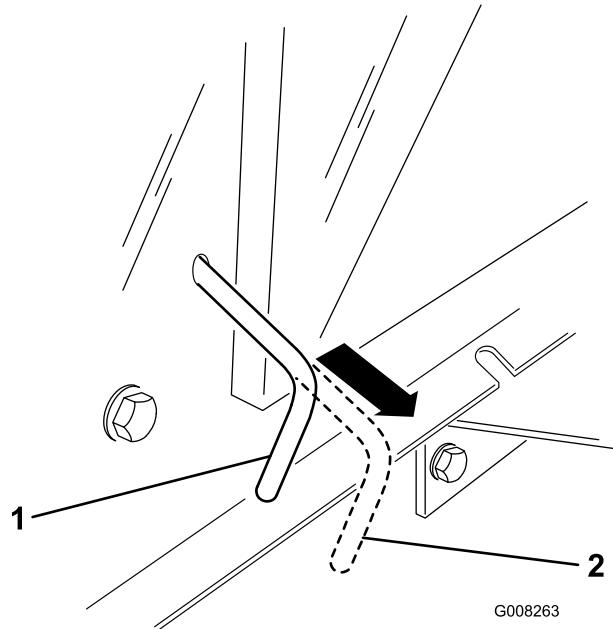

Figure 15
Note: This disengages the drive system and allows the wheels to turn freely (Figure 15).
- Push the drive control in to the Operate position (Figure 15) to engage the drive system.